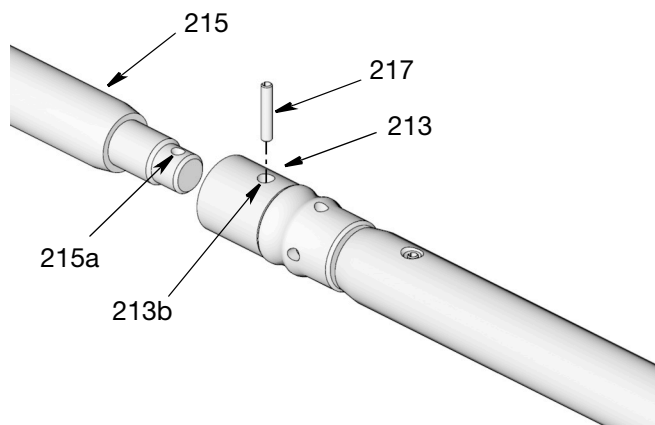

FIG. 40
- Thread the priming rod (215) into the end of the piston rod (213). Hand tighten the two pieces together securely, ending with hole (215a) aligned with hole (213b) (FIG. 40).
- Install the pin (217) through the aligned holes (215a) and (213b) (FIG. 40). Support the rods (215 and 213), as needed, to ensure the rods do not bend. Use a pick and hammer to seat the pin inside the rods.